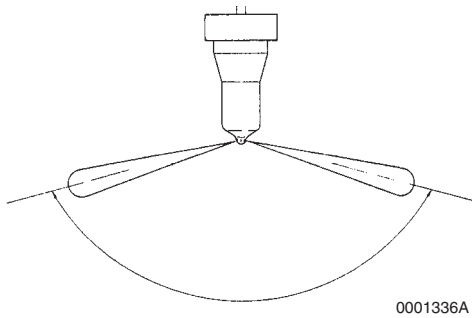
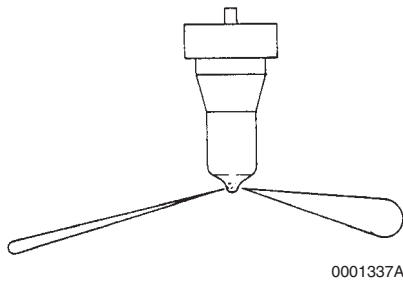

Figure 7-49
Figure 7-50
- Pump the operating lever more rapidly to repeatedly “pop” the injector and observe the spray pattern. The pattern should be a very fine uniform spray (**Figure 7-49**). If a dripping or an uneven pattern is seen (**Figure 7-50**), service or replace the injector.